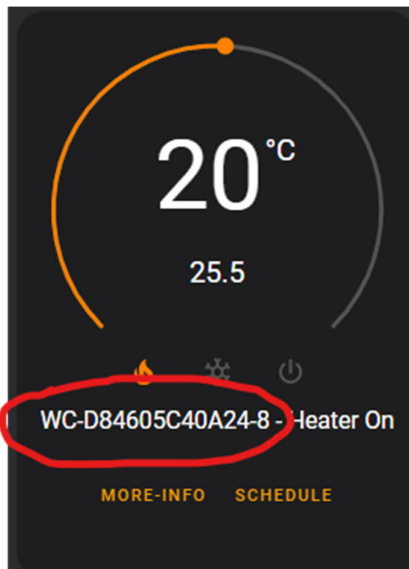

Figure 3.2
- 3.7.4. The thermostats display the Mac-address (see Figure 3.2) before re-naming, this address you will need to use when setting up thermostats in section 6 *Thermostats*. (When allocating the thermostats the MAC address will not be capitalized.)